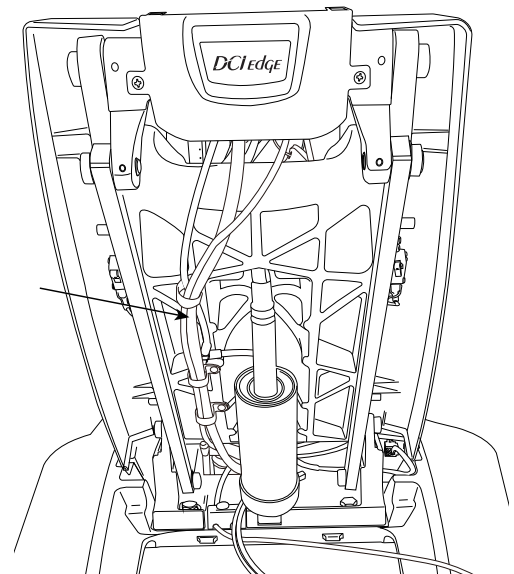

Figure 3. Moving harnesses to the side
- 2 Move all harnesses/tubing to the side (see Figure 3).